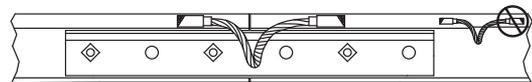

FIGURE 2
- ⚠ **WARNING:** The location of the bond is very important! The intent of a rail head bond is to electrically join two rail sections. Rail head bonds must be done only within the confines of the joint/splice bar as near to the bar center as practical. Failure to observe this may result in a rail break leading to property damage, injury or death to others. **HEAD CONNECTION BONDING MUST NEVER BE DONE ON OR NEAR THE HEAD OUTSIDE THE CONFINES OF THE JOINT BAR, OR NEVER ON THE BASE OF THE RAIL.** See Figure 2.